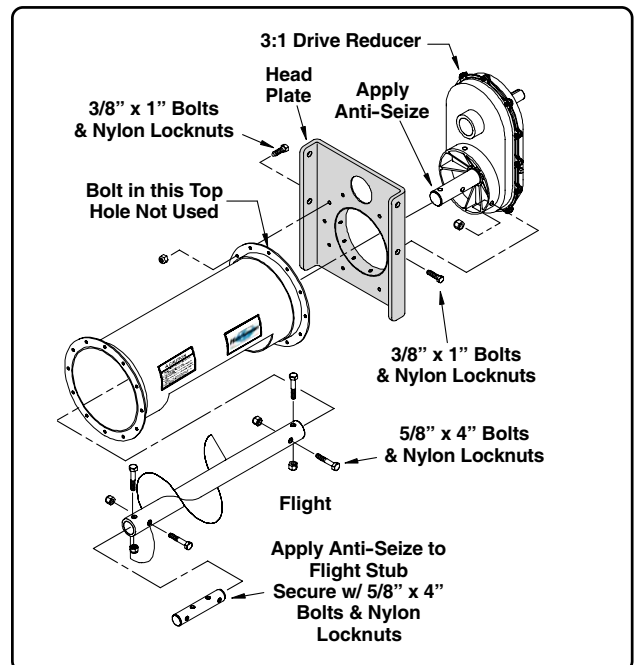

FIG. 5
1. Fasten the head plate to the housing weldment. Secure using eleven (11) 3/8" x 1" bolts and locknuts (the bolt hole on top of housing flange will not be used, See Fig. 5).
Apply anti-seize compound to the flight stub provided with the power head. Install the stub into the end of the head flight (See Fig. 5). Secure the stub using two (2) 5/8" x 4" bolts and nylon locknuts.